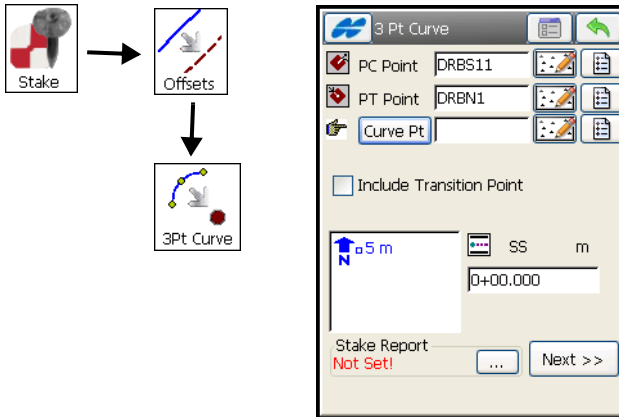

Figure 9-30. Three Point Curve
2. On the **3 Pt Curve** screen (Figure 9-30), enter or select from the list or map the following sets of three known points, to create a curve and tap **Next**: